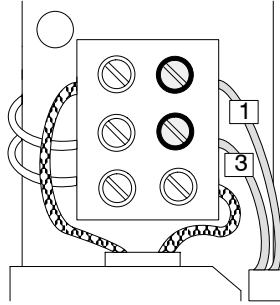

Figure 15 Connect the Heater
1. Loosen the two screws from the terminal block as shown in Figure15. Insert wires 1 and 3, extending from the hose, into the terminal block.